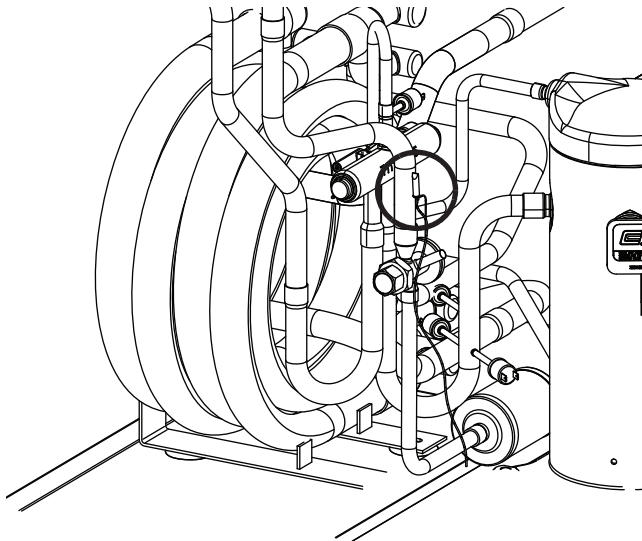

Fig. 21 — No Freeze Protection Sensor
- Evaporator freeze protection sensor, mounted between the thermal expansion device and the evaporator, monitors refrigerant temperature between the evaporator coil and thermal expansion valve. See Fig. 21. If temperature drops below or remains at freeze limit trip for 30 seconds, the controller will shut down the compressor and enter into a soft lockout condition. The default freeze limit trip is 30 F.